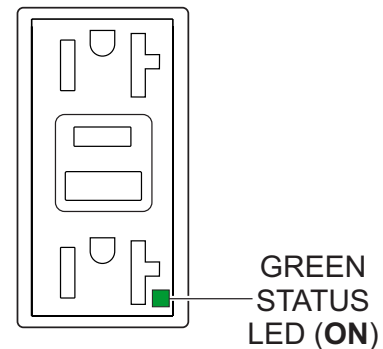

Figure 53. GFCI Receptacle (ON)
3. Verify that the **status LED** on the **GFCI receptacle** (Figure 53) is **ON (GREEN)**.